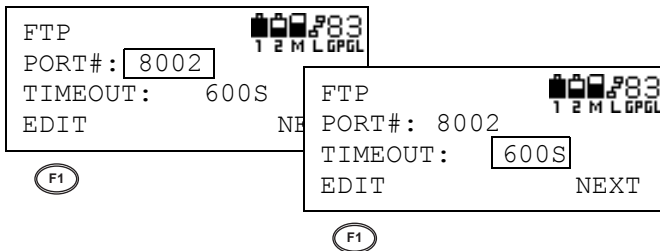

Figure 3-92. Press F1 when Changing Each Parameter
4. Press **F1** (CHG) to change FTP parameters (Figure 3-92). See “Selecting Parameters” on page 3-10 for details on this procedure.